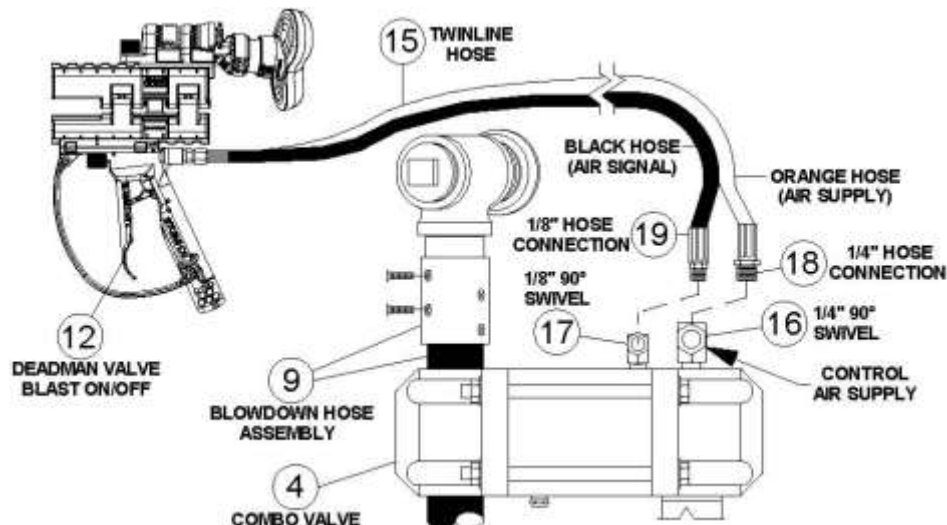

Figure 5.3 – MV3/Combo Pneumatic Deadman Blast Control System
5.8.1. Pneumatic Deadman System: When the pneumatic deadman (#12) lever is pressed, air supply from the orange hose of the twinline hose (#15) flows into the black hose. Air flows through the black hose to the signal port of the ComboValve (#4) to open it and send air into the abrasive blaster and blast air hose. When the trigger deadman lever is released, the air signal is vented and the ComboValve is closed to shut off the air supply and depressurize the blaster through the blowdown hose assembly (#9). See Figure 5.3 and the drawings in Sections 9.1 and 9.2.